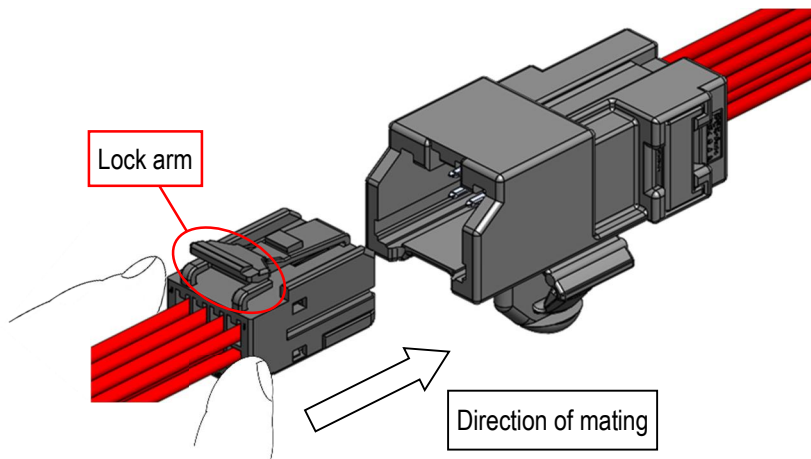

Fig. 43 Mating of connector
- ① Push the female connector that has been installed the retainer in the direction of mating until makes an audible click (see Fig. 43). While mating the female connector, please do not touch the lock arm to prevent insufficient mating.
- ② After that, pull the female connector lightly to check that the female connector is locked.